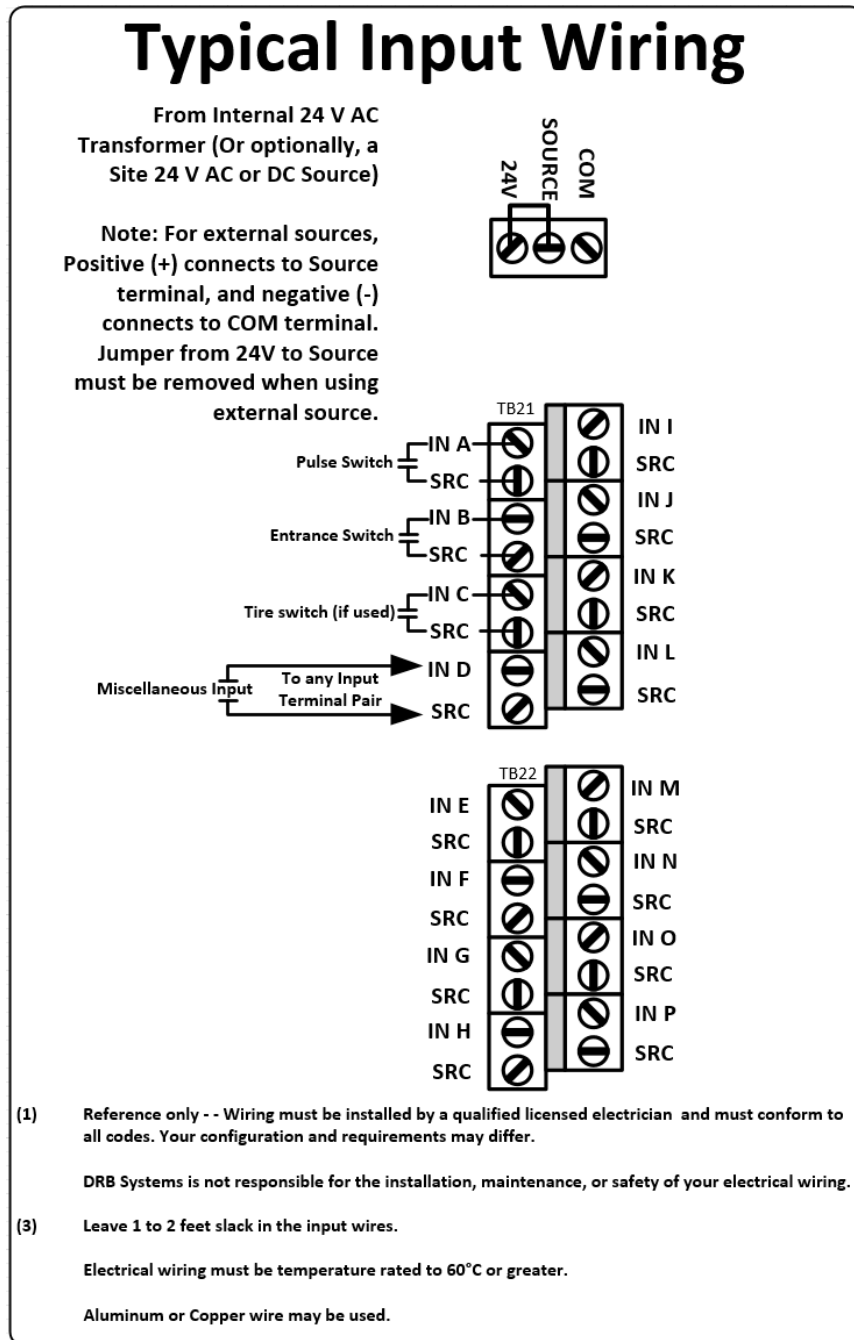

Figure 8: Input Wiring
1. Wire all input devices to the **SRC** and an Input number/letter terminal (signal) as indicated in Figure 8: Input Wiring.